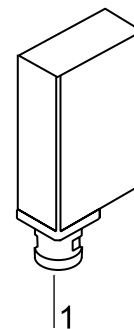

Fig. 3c,
2. **Fig. 3c:** Rotate the stands [1] of the rack using a 24 mm wrench so that the workplate is exactly horizontal in all directions. Perform the height adjustment of the device stands from left to right and from rear to front.